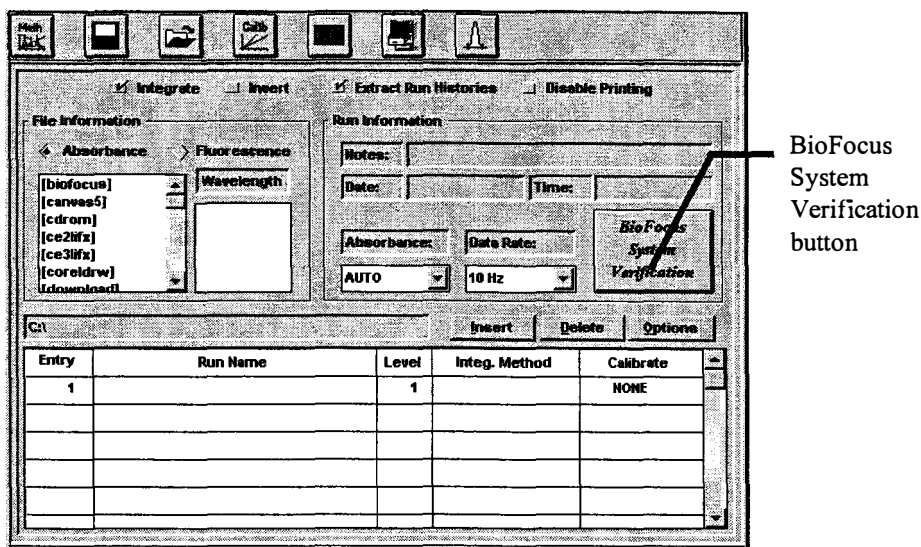

Figure 4-6 System Verification Button
- After completion of the autosequence, open Integrator software and click the **BioFocus System Verification** button. See Figure 4-6.